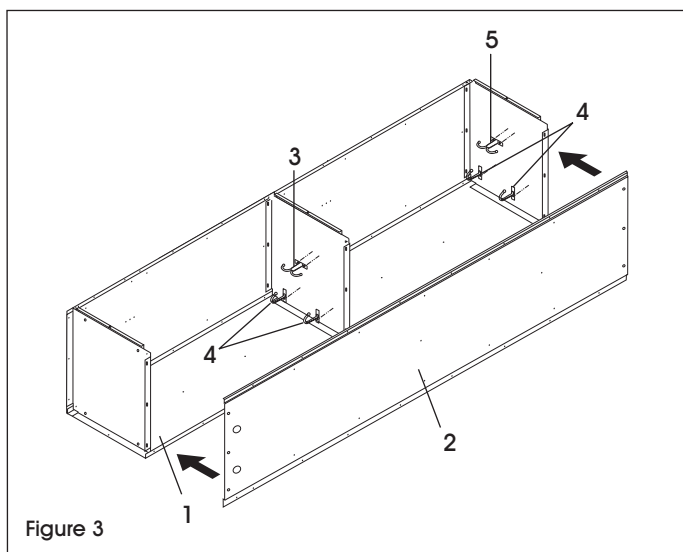

Figure 3
4. Install one double ceiling hook (5) and two single ceiling hooks (4) in each locker opening. (See Figure 3)
5. Bolt right side panel (2) to back panel (1). Attach side panel to top, bottom and middle. (See Figure 3)